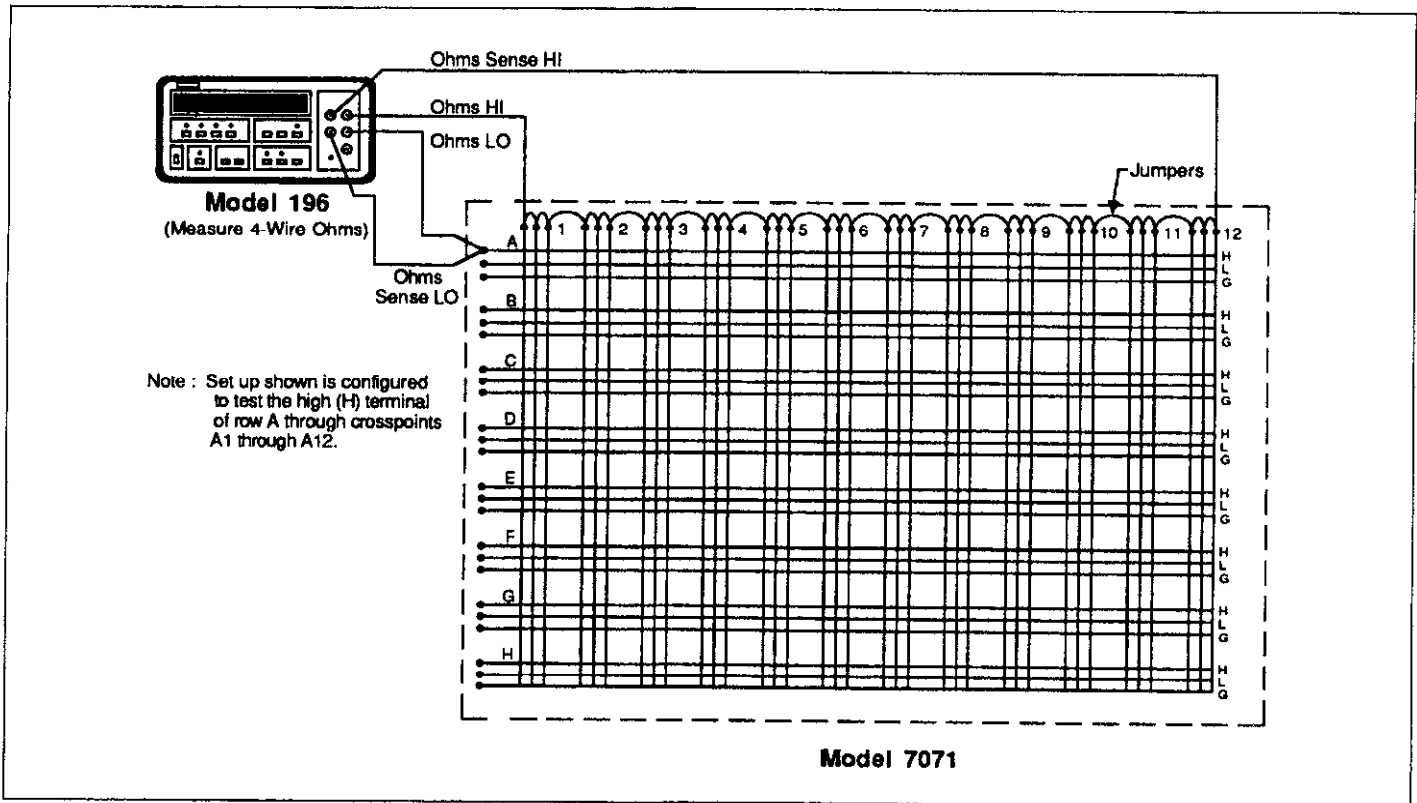

Figure 4-2. Path Resistance Testing
Refer to Figure 4-2 for the following procedure.
7. Connect OHMS HI and OHMS SENSE HI of the Model 196 to the common terminal (jumper). It is recommended that the physical connections be made at columns 1 and 12 as shown in Figure 4-2.
8. Connect OHMS LO and OHMS SENSE LO to the high (H) terminal post of ROW A.
13. Using the basic procedure of steps 10 through 12, check the resistance of ROW A high (H) terminal paths for COLUMNS 4 through 12 (crosspoints A4 through A12).
15. Move the OHMS LO and OHMS SENSE LO test leads to the low (L) terminal of ROW A.
16. Repeat steps 9 through 12 to check the low (L) terminal paths of ROW A.
17. Turn the Model 707 off and move the OHMS LO and OHMS SENSE LO test leads to the guard (G) terminal of ROW A.